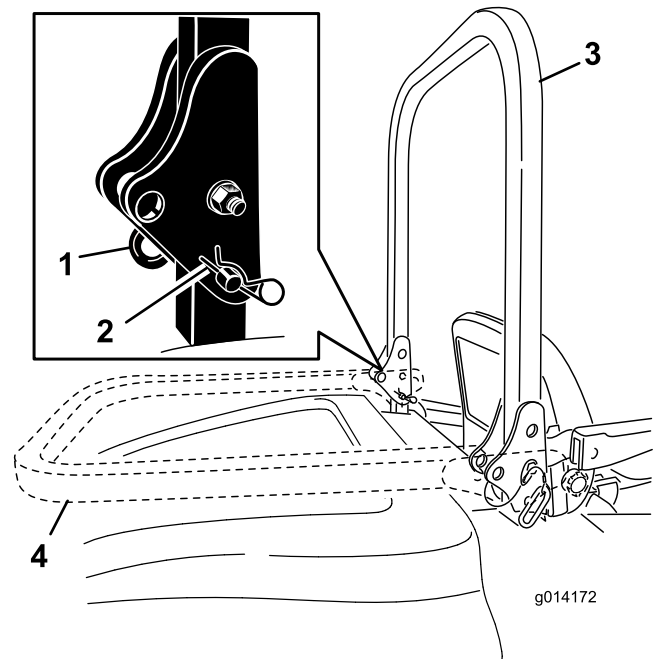

Figure 20
1. To lower the roll bar, remove the hairpin cotters, push the roll bar forward against the springs, and remove the 2 pins (Figure 20).
2. Lower the roll bar to the down position (Figure 20).
3. Install the 2 pins and secure them with the hairpin cotters (Figure 20).
4. To raise the roll bar, remove the hairpin cotter pins and remove the 2 pins (Figure 20).
5. Raise the roll bar to the upright position and install the 2 pins and secure them with the hairpin cotters (Figure 20).